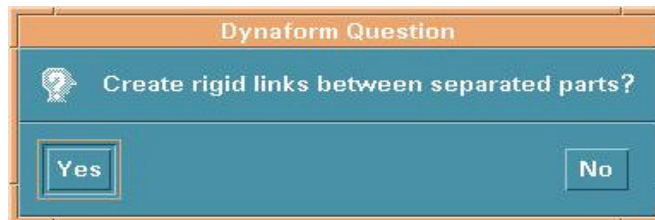

Figure 4.6.1 Dynaform Question
- A DYNAFORM Question window appears, see Figure 4.6.1.